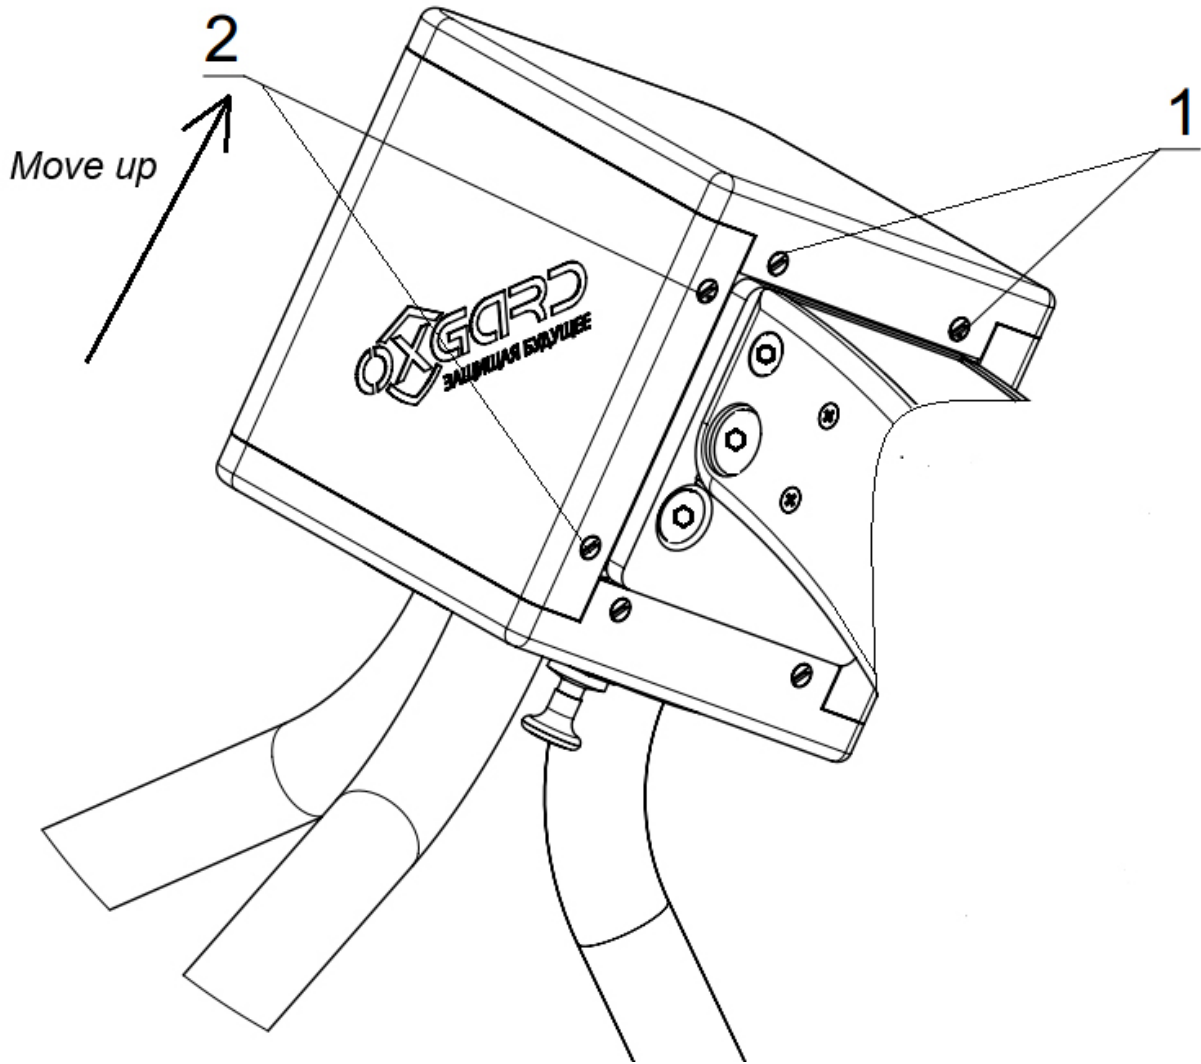

Fig. 9.
For this it is required to undo 2 screws (1) and 4 screws (2), smoothly move the cover up on a short distance, without breaking the cable, connecting the display panel (Fig. 9). Disconnect the cable from the display board.